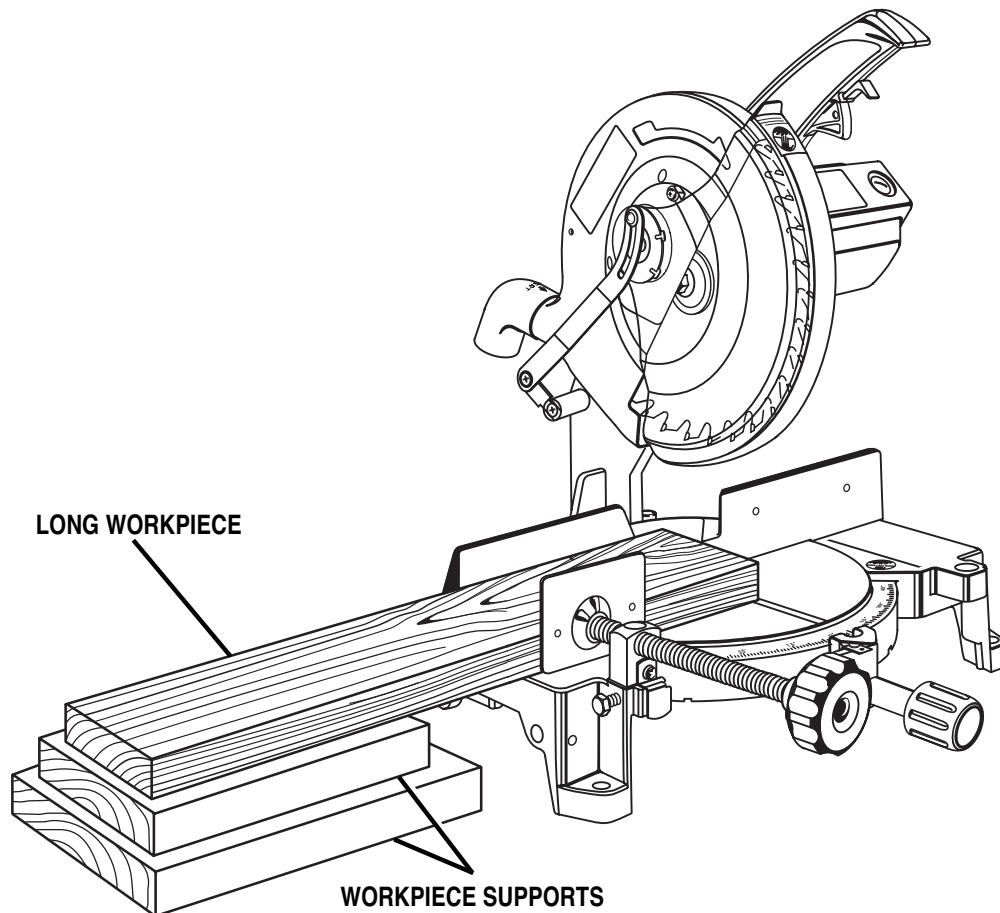

Fig. 23
- When cutting long pieces of lumber or molding, support the opposite end of the stock with a roller stand or with a work surface level with the saw table. See Figure 23.
See Figure 23.